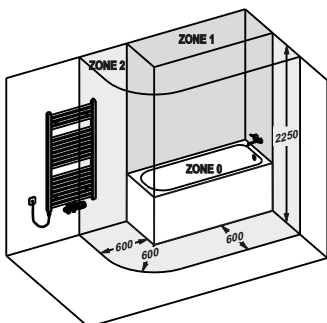
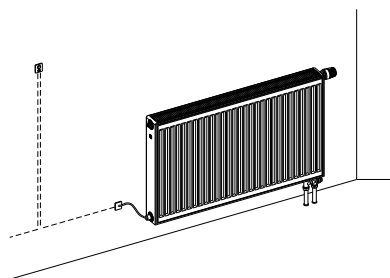
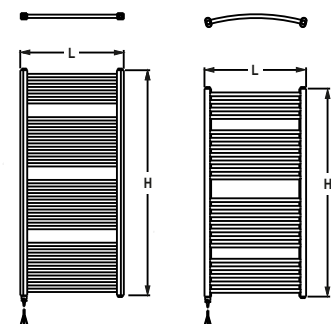
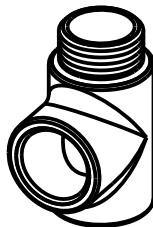

Fig.1
Fig.2
Fig.3
Fig. 4 T joint (Z-SKV-0001)
- Operating position	Vertical with power cable at the bottom – this applies for KORALUX radiators (see Fig. 3) Horizontal in the bottom part of the radiator – this applies for RADIK COMBI VK (see Fig. 2)
**The EHE must not be located in bathrooms and showers inside the bath or shower or even above the bath or shower (zones 0 and 1 according to ČSN 33 2000-7-701, see Fig. 1). The power supply for the EHE must meet the requirements for connection of class 1 appliances and must be protected with an appropriate and functioning circuit breaker. If the EHE is not connected to the mains with the fitted plug, a switch must be fitted to the EHE power supply, which allows the user to safely disconnect it from the mains if necessary.**
Slide the EHE carefully into the KORALUX tubular radiator from the bottom (see Fig. 1, 3), or from the side into the lower bushing of the RADIK COMBI VK radiator on the side opposite to the valve (Fig. 2) and tighten it using a size 22 spanner. The EHE must not be tightened by the metal bushing for the connection cable! If the specific situation in question requires that the return branch of the hot-water system is connected to the radiator input where you are fitting the EHE, use a T-joint specially designed for this purpose (KORALUX accessories – trade name T Joint – Fig.4).